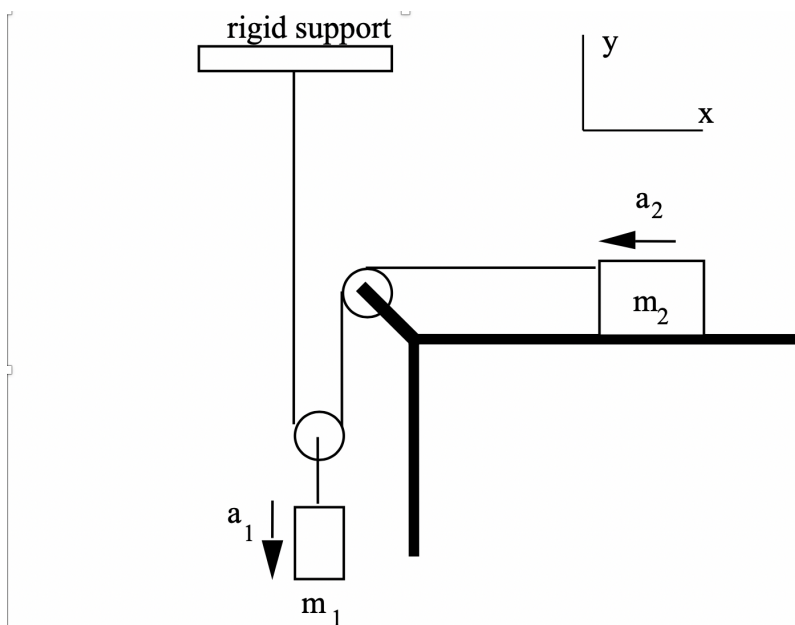

Figure 1. The two-mass system of Experiment 4.
This week, you will perform an experiment, shown in Figure 1 below, similar to last week's but with two novel features: sliding friction will be important, and the moving masses will have related but distinct accelerations. Since the iOLab cart will be sliding rather than rolling, we'll use its on-board accelerometer sensor to measure accelerations. In the analysis of the experiment using Newton's laws, you will be able to determine the acceleration due to gravity g and the coefficient of kinetic friction μ_k .
- v. Arrange the apparatus so the string passes over the fixed pulley and under the moving pulley as shown in Figure 1.